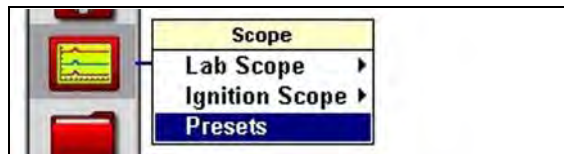

Figure 7-15 Scope menu
- From the main menu, select **Scope > Presets** (Figure 7-15).